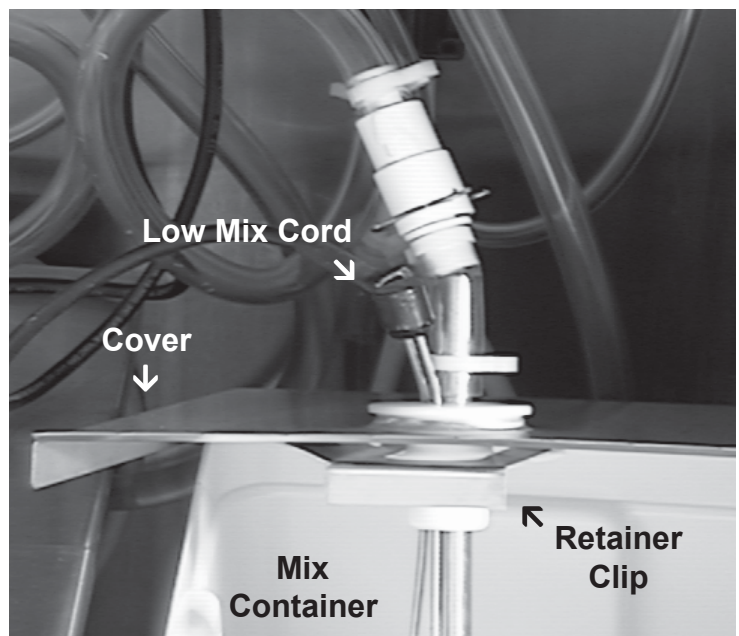

Figure 9. Mix Inlet Tube & Probe Assy. Clip
B. Connect 1/2 inch (12,7mm) I.D. plastic food grade tubing to check valve and then to the mix container. Observe check valve flow arrow. Secure with hose clamps. Then place assembly thru hole in cover and install retainer clip. Figure 9.
C. Connect 1/2 inch (12,7mm) I.D. plastic food grade tubing between the large port of air/mix tee and refrigerated mix transfer line. Secure with large hose clamp or equivalent. Figure 9.
D. Connect mix low cords. Figure 9.